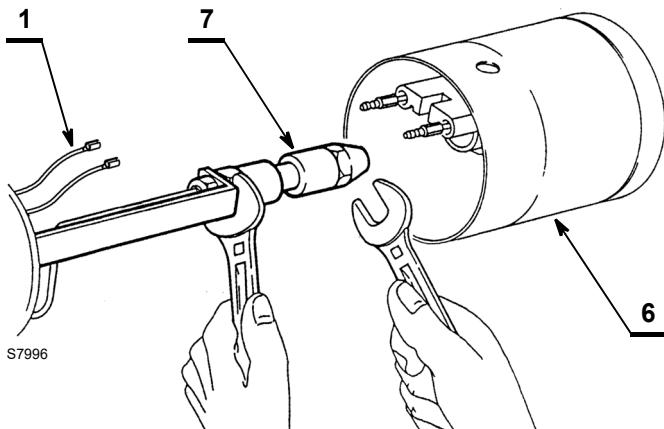

Fig. 21
- Replace the nozzle 7) (Fig. 21), holding the nozzle-holder with the help of a spanner.